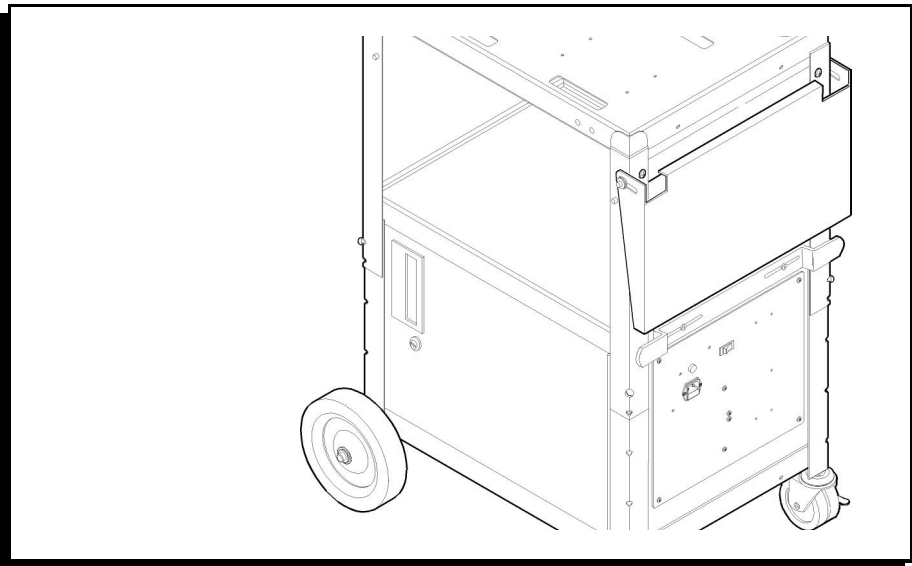

Figure 8
12. To collapse the shelf, lift the shelf from the sides and allow it to swing down. (Figure 8.)